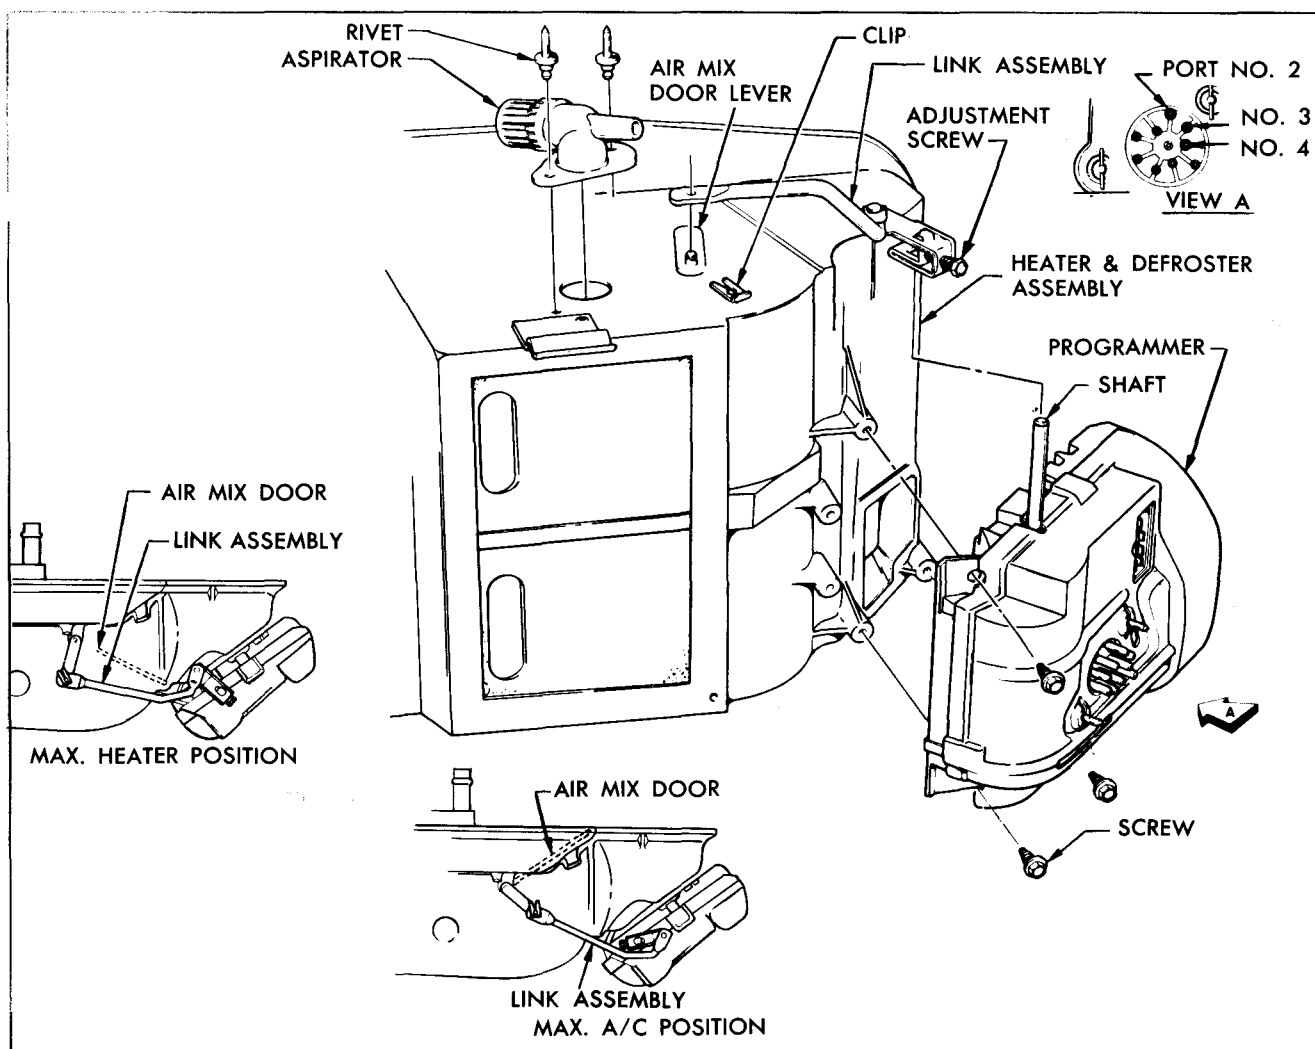

Fig. 1-106 Programmer Installation and Adjustment
1. Loosen the hex screw of the door link at the output shaft of the programmer, Fig. 1-106.
5. Without disturbing the door link or the output shaft position, tighten the hex screw on the door link, Fig. 1-106.